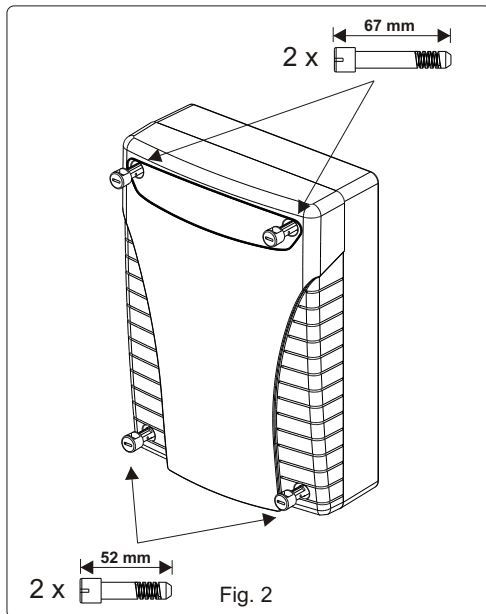

Fig. 2
- 2) Unscrew the 4 screws of the cover and verify the electronic card integrity. (Fig. 2).